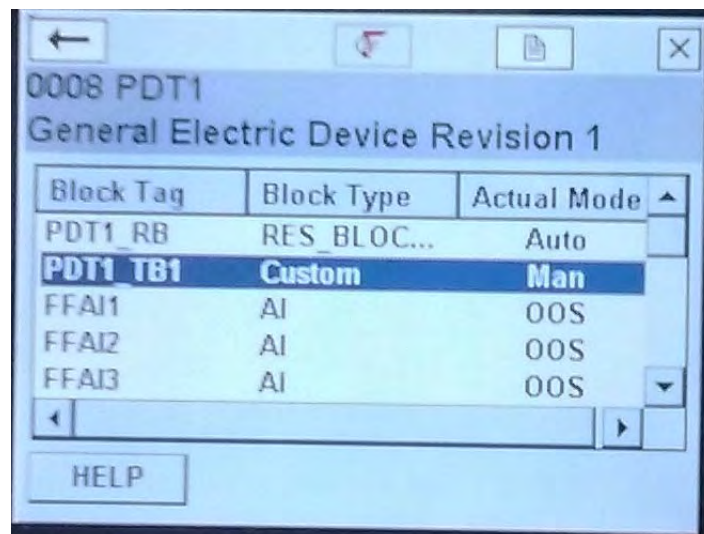

Figure 100 Block Screen
3. Press the right button  or double-tap the item. The *Block Tag* screen appears (Figure 100).